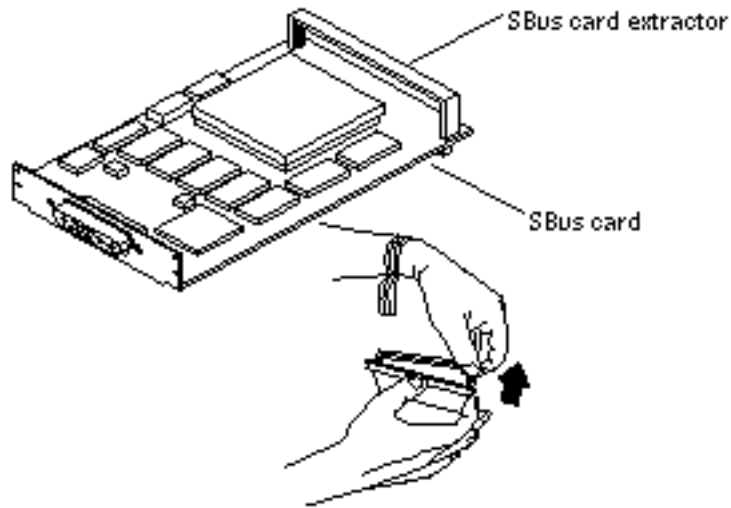

Figure 2-13 Removing the SBus Card Extractor
- a. **Bend one leg of the extractor slightly to the outside until the hook clears the hole in the SBus card (Figure 2-13).**